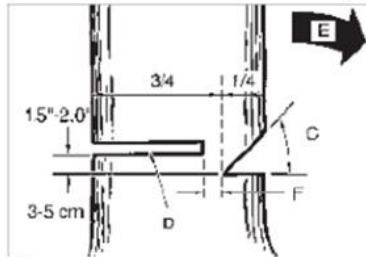

Fig 3b
WARNING: Do not pass in front of covered trees. Make the felling cut (D) on the opposite side of the shaft and 3 - 5 cm (1.5 - 2.0 inches) above the edge of the plug (C) (Fig. 3b)